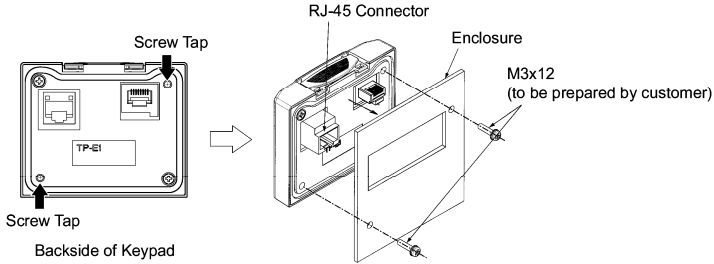

Figure 2.34 Mounting a Keypad on the Enclosure Wall
(Note 2) When mounting on an enclosure wall, use the screws fitted to the thickness of the wall. (Refer to Figure 2.34.)
- ③ Make a cut-out on the enclosure wall. For details, refer to Chapter 8, Section 8.5.3 “Keypad.”
- ④ To mount the keypad on the enclosure wall, fix it firmly using a pair of M3 screws put through the taps shown below. (Figure 2.34.)